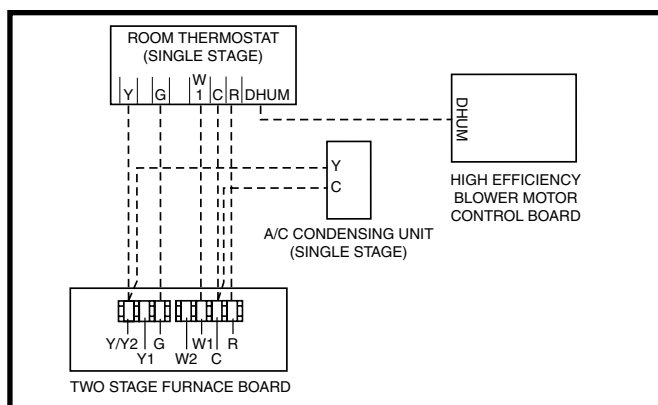
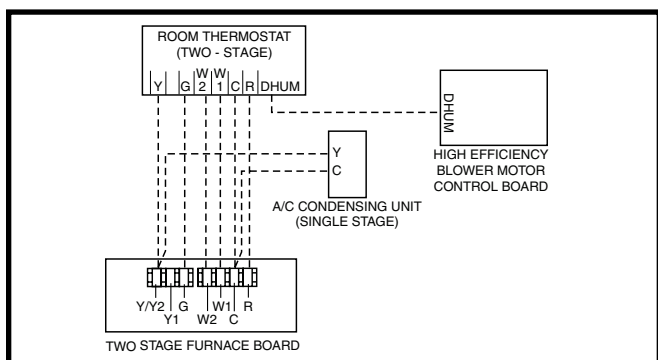

Figure 19. Wiring Configuration 1
Figure 20. Wiring Configuration 2
- The thermostat must be installed according to the instructions supplied by the thermostat manufacturer. Low voltage connections (24 VAC) from the thermostat are wired to the terminal strip on the integrated control in the furnace. For heating applications, Figure 19 & Figure 20 \(page 23\) show how to properly connect single stage and two-stage thermostats. Recommended minimum wire gauge for thermostat wiring is shown in Table 8, \(page 33\).
- Connect the thermostat's **W** output to the furnace control boards **W1** terminal. This allows the furnace to always run in low output mode. See Figure 19
This option uses the full two stage heating capability of the furnace with a single stage outdoor unit. See Figure 20.
The Autostaging feature makes it possible to use a single stage thermostat and still receive some of the benefits of 2-stage furnace operation. If Autostage is enabled, the furnace will drop to **LOW** fire after initially starting in **HIGH** fire. After a period of 10 minutes, the furnace will then stage up to **HIGH** fire, until the heating load is met. See Figure 19 \(page 23\) and the Low Voltage Connection section.
- ✓ Verify that all needed thermostat wires are securely connected to the correct leads on the terminal strip of the circuit board. See Figure 19 & Figure 20.